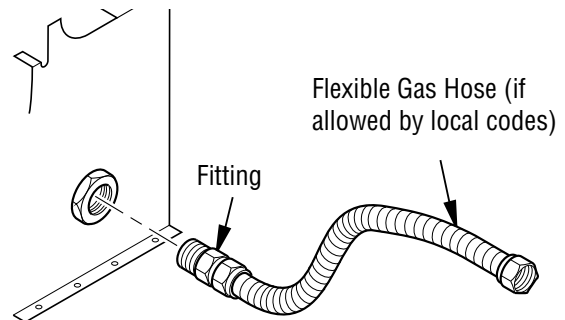

Figure 10 - Attaching Flexible Gas Hose to Heater
1. Connect approved flexible gas hose to gas control fitting in heater (see **Figure 10**).
4. Disconnect gas line from heater base as shown in *Figure 10, Page 10*.